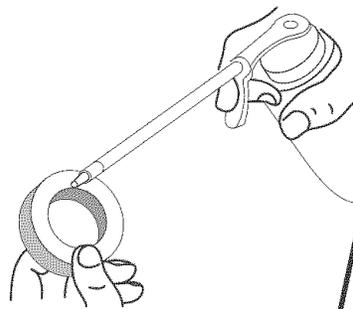

Fig. 15
4. Apply enough clean SAE 30 oil to lightly coat the filter (Fig. 15).